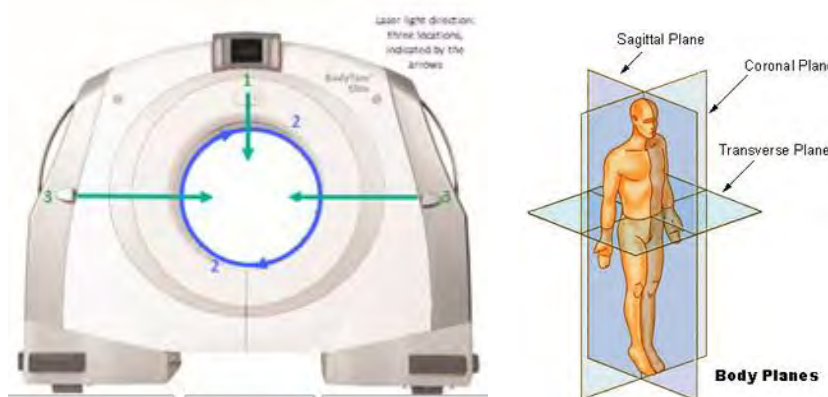

Figure 4: Laser aperture's direction
There are four lasers used with the BodyTom 64 system as indicated in Figure 4 on page 55: 1 laser (Sagittal) at position **1**, 1 laser (Axial or Transverse) at position **2** (which is mounted internally and spins within the system's bore), and 1 set of external lasers (Coronal and Transverse/Axial) at position **3**.
- Lasers **1** (see Figure 4):
- Laser **3** (see Figure 4):
- Laser **2** (see Figure 4):